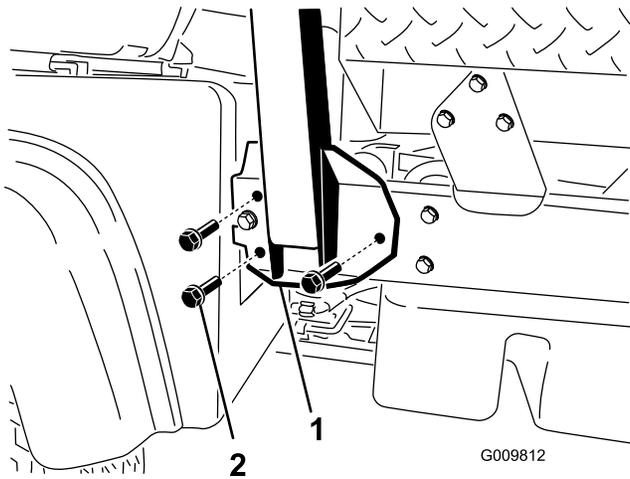

Figure 3
2. Align each side of the ROPS with the mounting holes on each side of frame of the machine as shown in Figure 3.